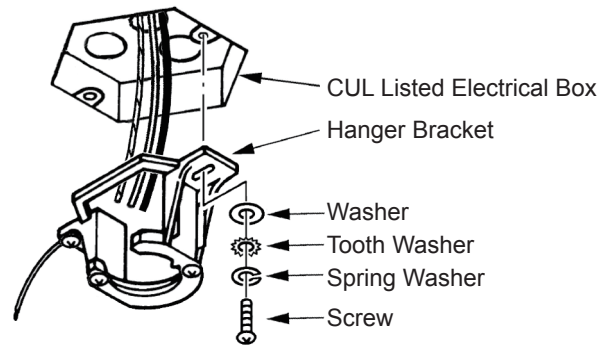

Figure 5.1
Step 1. Pass the 120-volt supply wires through the center hole in the Hanger Bracket and secure the Hanger Bracket to the CUL Listed Electrical Box with the screw and washers provided. Tighten the mounting screws securely. (Fig. 5.1)